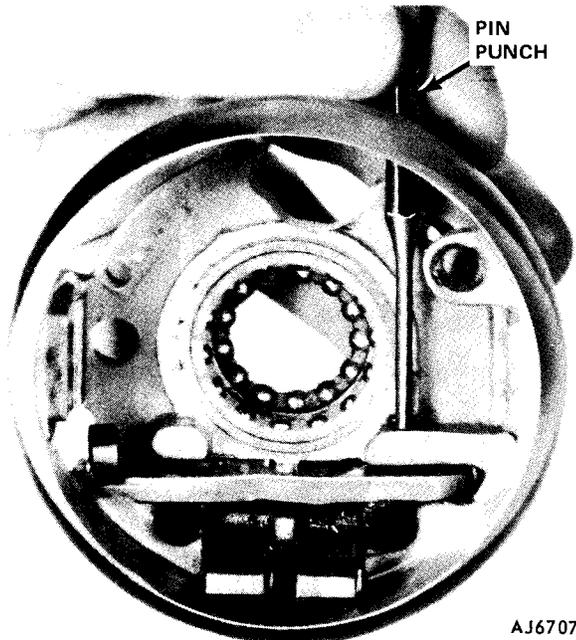

Fig. 11-39 Release Lever Pin Removal
(34) If lock shoes, release lever, or springs are to be serviced, remove release lever pin and lock shoe pin with a punch or Pin Remover and Installer Tool J-22635. Hold lock shoe springs in compression to relieve load on pins (fig. 11-39 and -40).